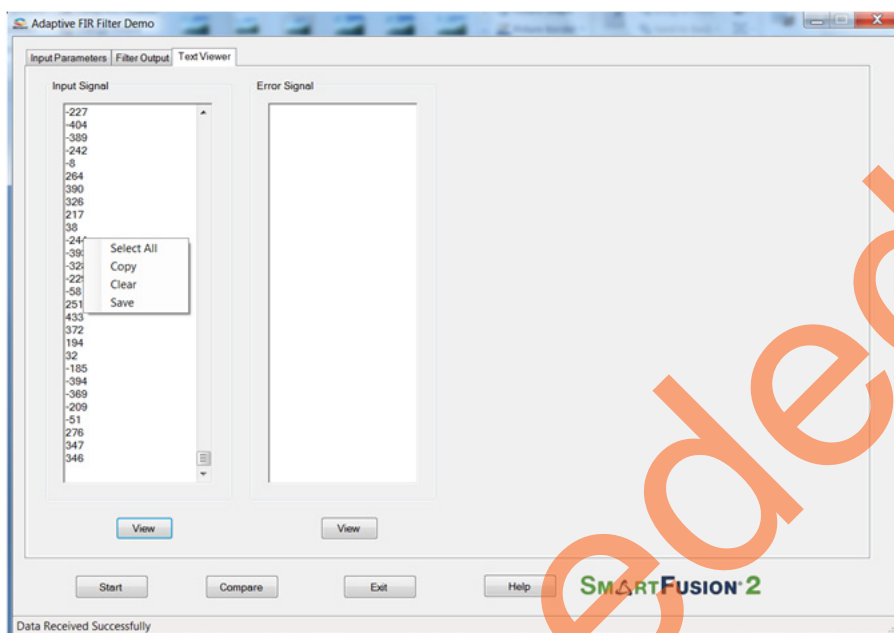

Figure 30 • Text Viewer - Coefficients Save Options
11. To save the Input Signal as a text file, right-click the **Input Signal** window. The Input Signal window displays different options as shown in Figure 30.